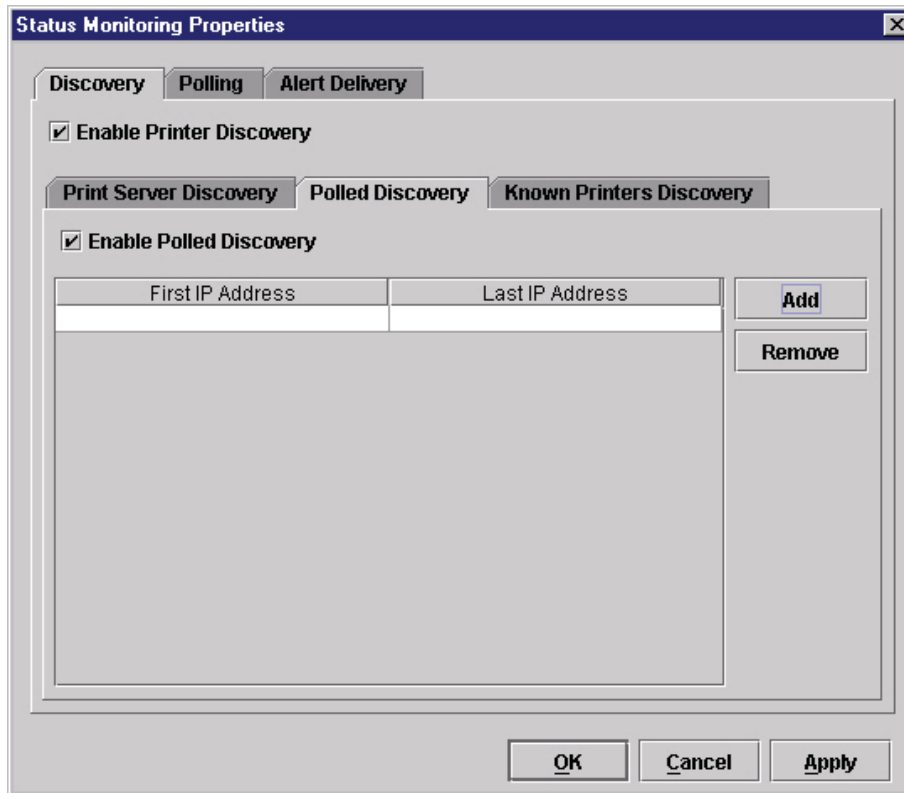

Figure 28 Status Monitoring Properties: Discovery Tab – Polled discovery Sub-Tab
2. **Polled Discovery:** This option allows you to select a range of IP addresses to poll. To enable the option, click the **Polled Discovery** tab and check the **Enable Polled Discovery** check box, then click **Add** (see Figure 28). In the First IP Address field, enter the first IP address of your desired range. In the Last IP Address field, enter the last IP address. Click **Apply** or **OK**. PNE polls the printers within your specified range and displays the results in the database pane.